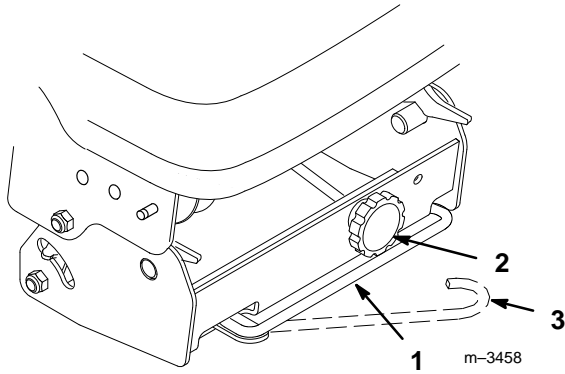

Figure 20
- Release the belt tension release arm on the pulley box to release the tension on the drive belt (Fig. 20).